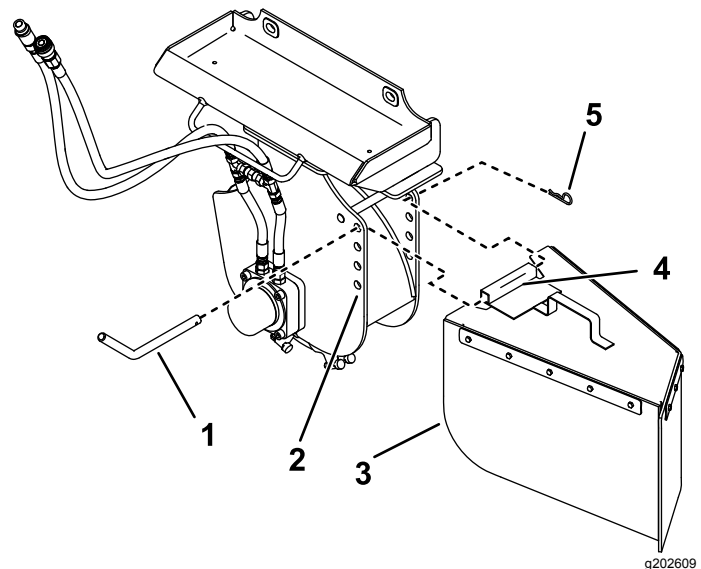

Figure 10
The stump grinder has 4 sets of mounting holes for positioning the chip guard (Figure 10). Move the guard up (upper holes) when you are grinding close to the ground and down (lower holes) when you are chipping tall stumps. Install the chip guard as follows:
1. Position the mounting tube on the guard between 2 holes on the grinder (Figure 10).
2. Slide the guard pin through the holes in the grinder and the mounting tube (Figure 10).
3. Secure the pin with a hairpin cotter (Figure 10).